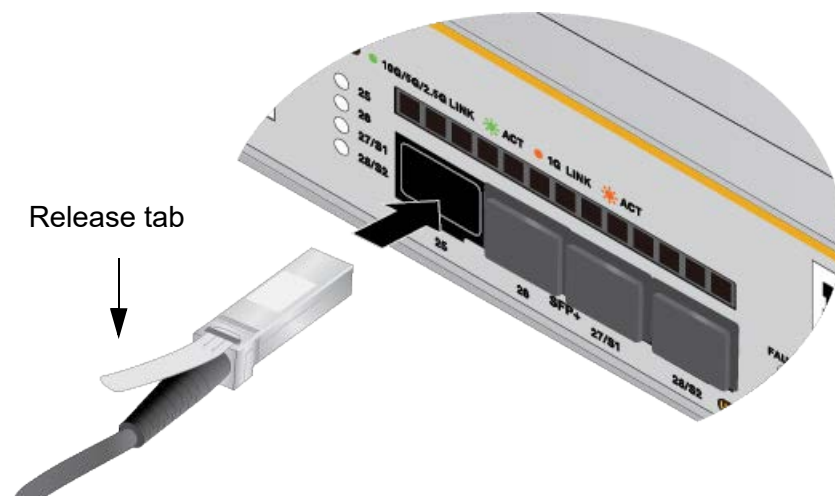

Figure 48. Installing SP10TW Cables
4. Slide the connector into the slot. The release tab on the connector must be on the top. Refer to Figure 48.